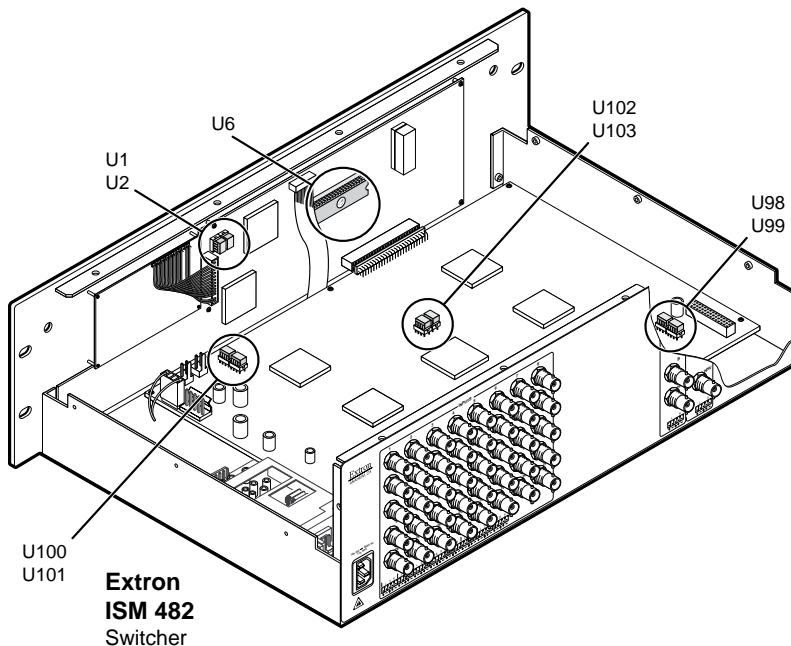

Figure 50. ISM Firmware Chip Locations
In some cases the ISM firmware may require replacement with an updated version. There are nine user-replaceable firmware chips (see figure 50): U1, U2, and U6 on the front panel circuit board and U98, U99, U100, U101, U102, and U103 on the main circuit board. The U-numbers are printed on the circuit boards. Extron recommends that you send the unit in to Extron for service and updates.
2. Locate the firmware chips to be replaced on the main or front panel circuit board (see figure 50).